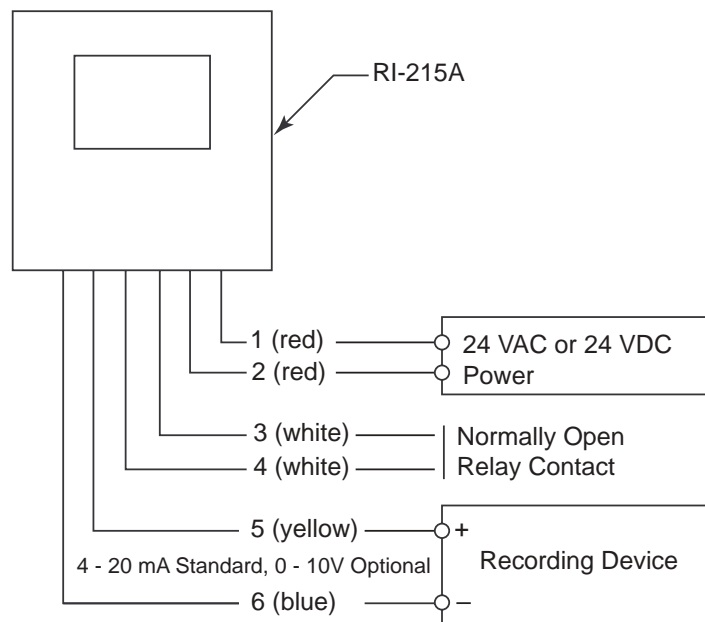
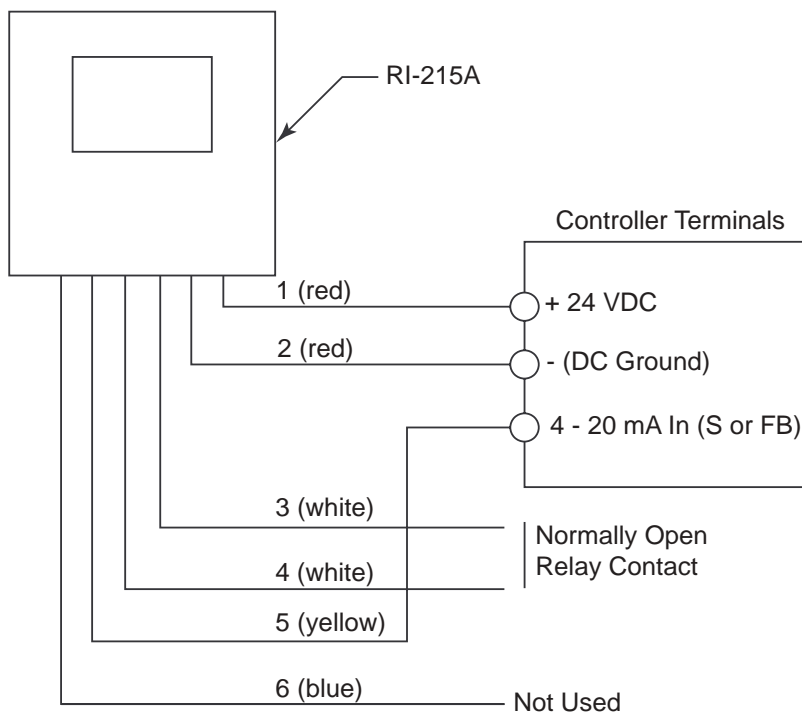

Figure 3: General Wiring Diagram of the RI-215A
Figure 4: Wiring Diagram of the RI-215A as a 3-Wire 4-20 mA Transmitter
Figure 3 below shows the general wiring diagram of the RI-215A, and is not specific to any device to which the unit could be connected. The red wires of the cable assembly, as shown in Figure 3 below, connect to an external 24 VAC or 24 VDC power supply. The white wires serve as a relay contact and can be used to control an external alarm. The yellow and blue wires carry a 4 - 20 mA output signal. These wires can be connected to a gas monitoring controller or a recording device.
Figure 4 below shows how to wire the RI-215A to a controller that accepts 3-wire, 4-20 mA transmitters.
2. Connect the two red AC line cables to the 24 VAC or 24 VDC power source. Refer to the wiring diagram in Figure 3 on page 12.
2. Connect the yellow (+) and blue (-) wires to the controller or recording device. Refer to the wiring diagram in Figure 3.
2. Connect the white wires to the external alarm. Refer to the wiring diagram in Figure 3 on page 12.
The RI-215A's analog output, available via the yellow and blue wires of the cable assembly (refer to Figure 3 on page 12), is proportional to the concentration of CO₂ for all gas ranges (e.g., 0 - 2,000 ppm, 0 - 5,000 ppm, and 0 - 9990 ppm), as shown in Figure 4.